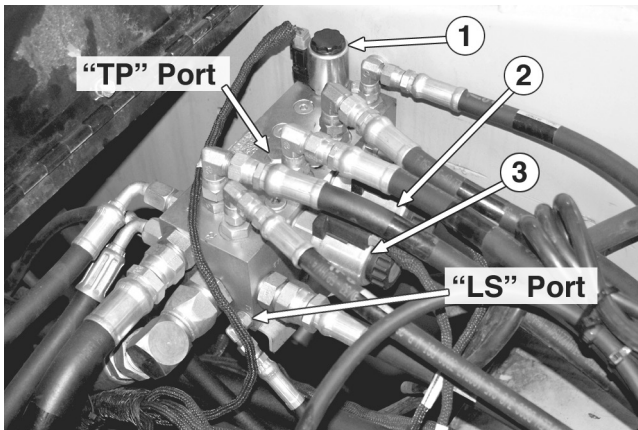

Figure 21. Conveyor/Auger/Spreadroll Manifold
1) Install a 1000 psi gage, with a shutoff valve in the port marked “G” on the right gate manifold located between the conveyors (**Figure 21**). This port is SAE 04 and requires a 9/16” wrench to remove the plug.